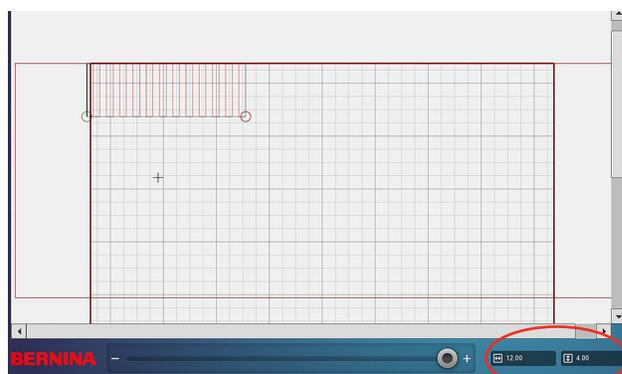

Fig. 67
5. With the design still selected, tap E2E+. Add enough repeats to make the design 12" wide (see the measurements in the boxes just below the Quilt Area on the right (Fig. 67).